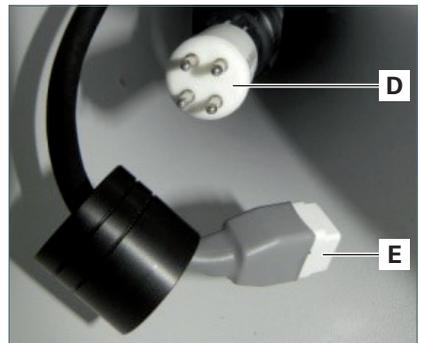

Fig. 3: Put the lamp socket on the lamp base.
6. Hold the lamp base **D** and put the lamp socket **E** onto the lamp base, see Fig. 3.